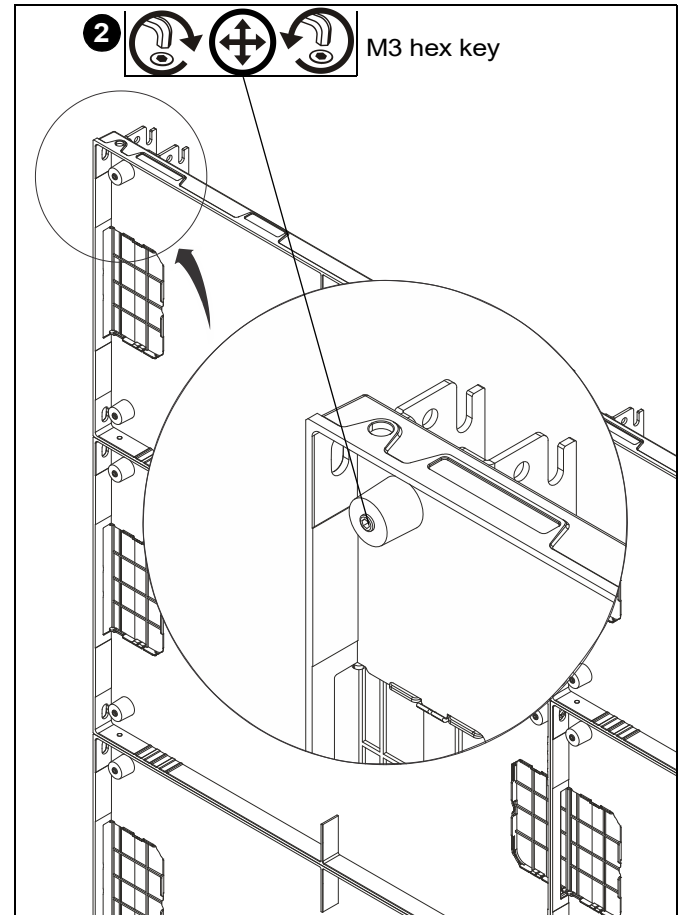

Figure 20
2. Adjust depth adjustment screw until LED housing is adjusted to desired depth using an M3 hex key (not included). (See Figure 20)